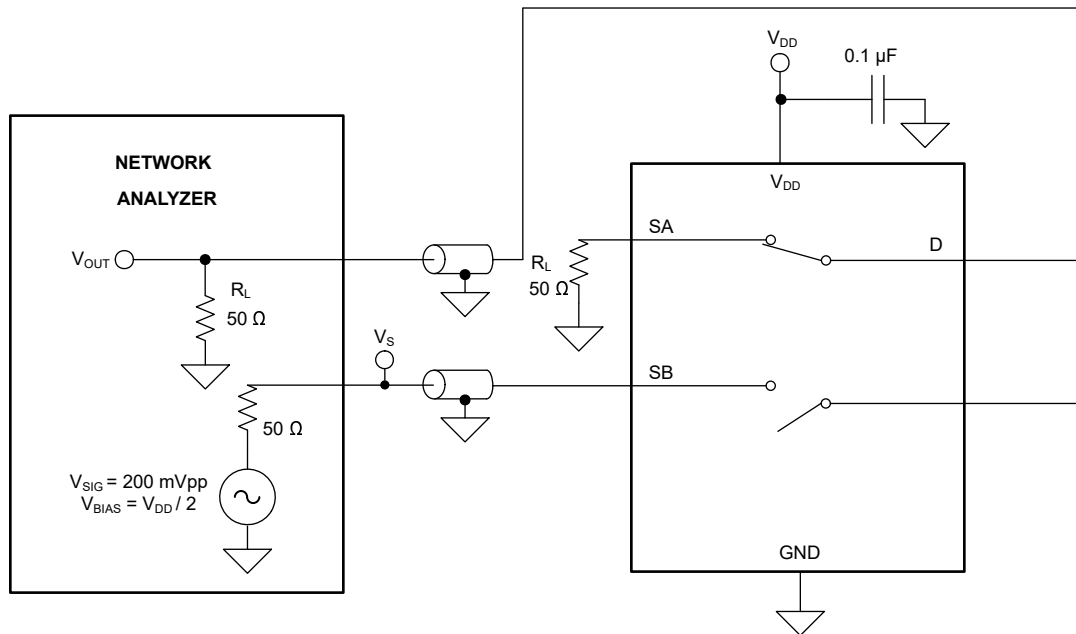

**Figure 14-13. Off Isolation Measurement Setup**
Off isolation is defined as the ratio of the signal at the drain pin (D) of the device when a signal is applied to the source pin (Sx) of an off-channel. Figure 14-13 shows the setup used to measure, and the equation used to calculate off isolation.